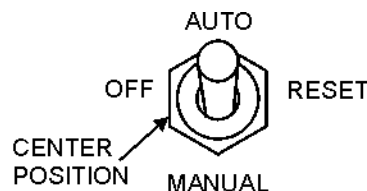

Figure 33. Off/Manual Auto Switch (OFF)
4. Place the Off/Manual/Auto Switch (Figure 33) in the "OFF/RESET" position (if applicable).